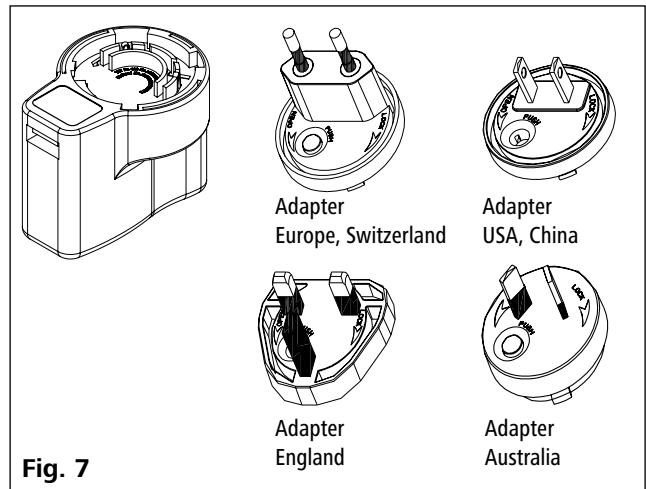

Fig. 7
- **OS 1.0** power supply (for **WiCo**) see Fig. 7